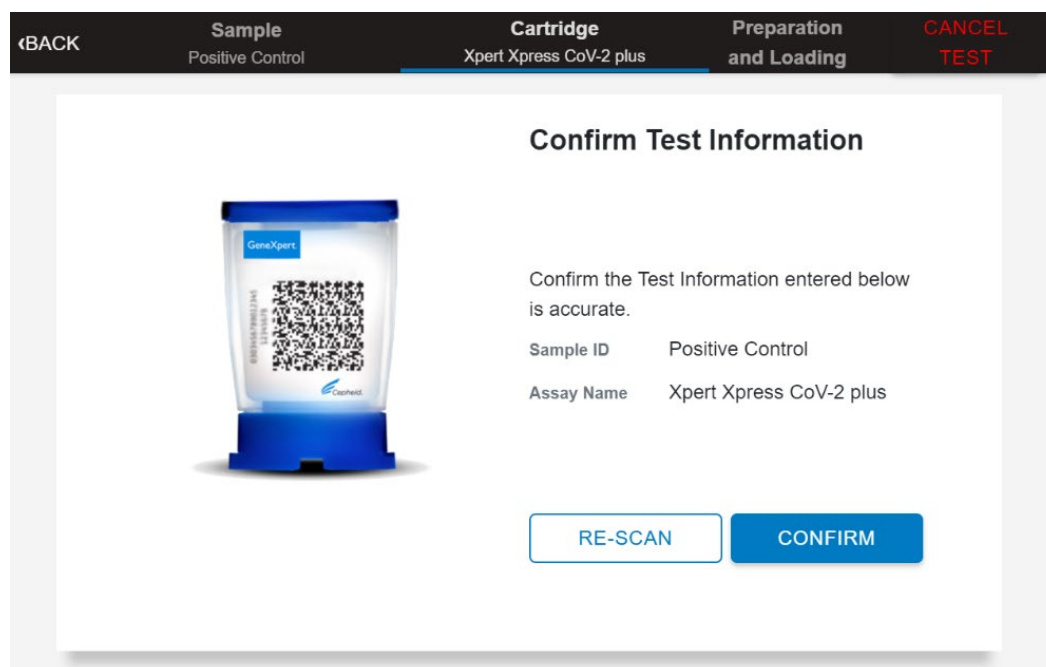

Figure 26. Confirm Test Information
9. Confirm the test information is correct then touch CONFIRM (see Figure 26).